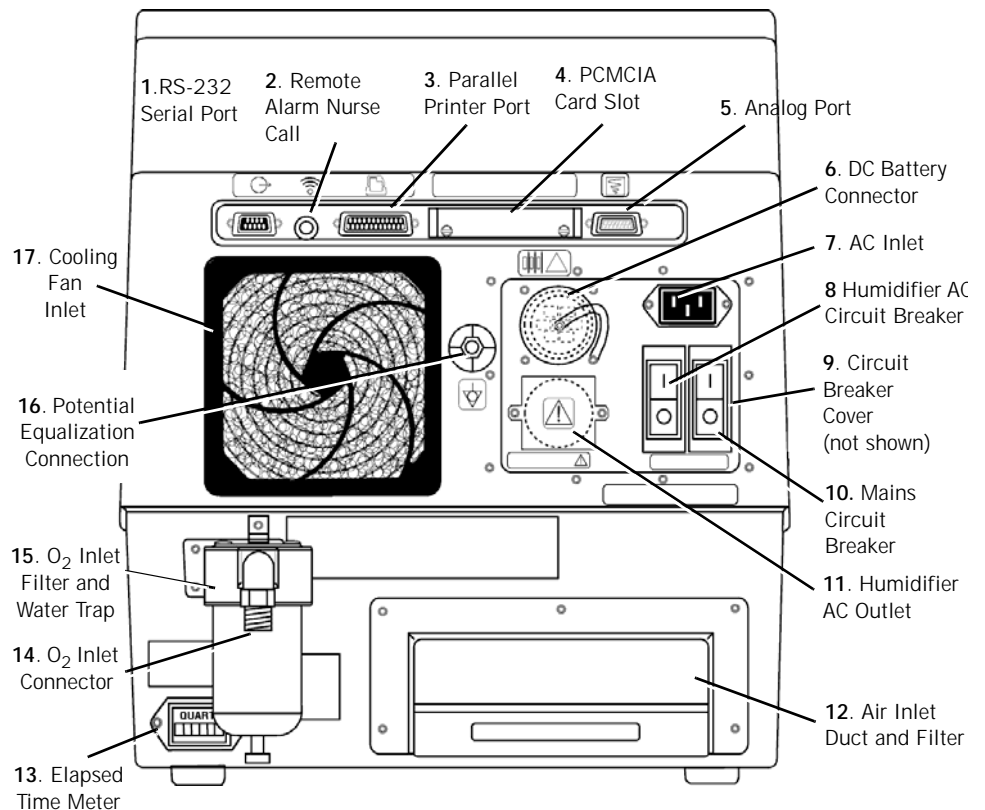

Figure 5-1: Back Panel
2. Connect the AC Power Cord (1) to the AC inlet (3) located on the rear panel. (Refer to Figure 5-1.)
3. After cord is fully inserted, tighten the retaining bracket screw (2) so that the power cord cannot be inadvertently disconnected from the ventilator.
When the switch is in OFF (⊖) position, the ventilator does not provide mechanical ventilation. If the AC plug is connected and the Mains circuit breaker (refer to Figure 5-1) is ON ( I ), AC power is active and the green Mains circuit indicator on the front panel, is illuminated.
1. Ensure that the Mains Circuit Breaker (refer to Figure 5-1), located on the ventilator back panel, is in the ON ( I ) position.
2. For 120V applications, if a humidifier is attached to the ventilator, ensure that the Humidifier AC Circuit Breaker (refer to Figure 5-1), located on the ventilator back panel, is in the ON ( I ) position. A humidifier connection is only available on 100-120VAC ventilators.